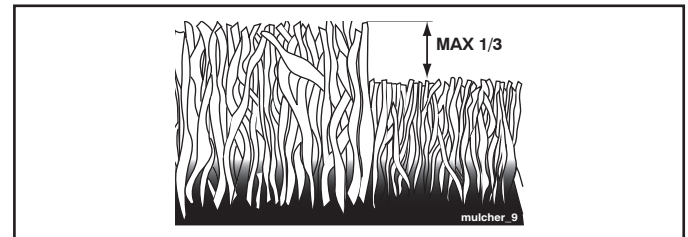

FIG. 15
- For best results, adjust the mower cutting height so that the mower cuts off only the top one-third of the grass blades (See Fig. 15). For extremely heavy mulching, reduce your width of cut on each pass and mow slowly.